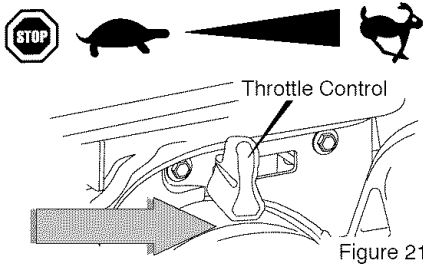

Figure 21
4. Move throttle control to "**FAST**" position. Operate the engine with the throttle control in the "**FAST**" position (see Figure 21).